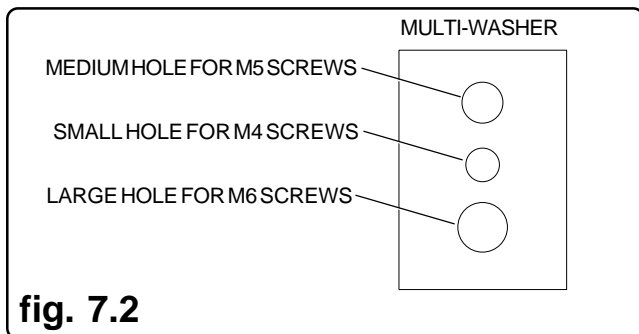

**fig 7.1**
- 7** To prevent scratching the screen, set a cloth on a flat, level surface that will support the weight of the screen. Place screen face side down. If screen has knobs on the back, remove them to allow the adapter brackets to be attached. Place adapter brackets (**BB or CC**) on back of screen, align to holes, and center on back of screen as shown in figure 7.1. Attach the adapter brackets to the back of the screen using the appropriate combination of screws, multi-washers, and spacers as shown in figure 7.3.